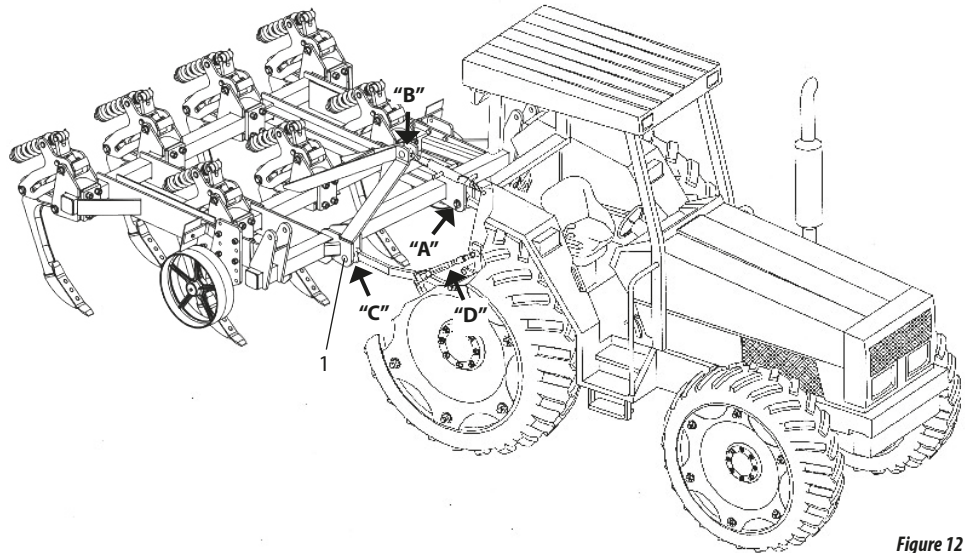

Figure 12
- 07 - Hitch the bottom left arm with the pin (1) figure 12 into the "A" support of the subsoiler.